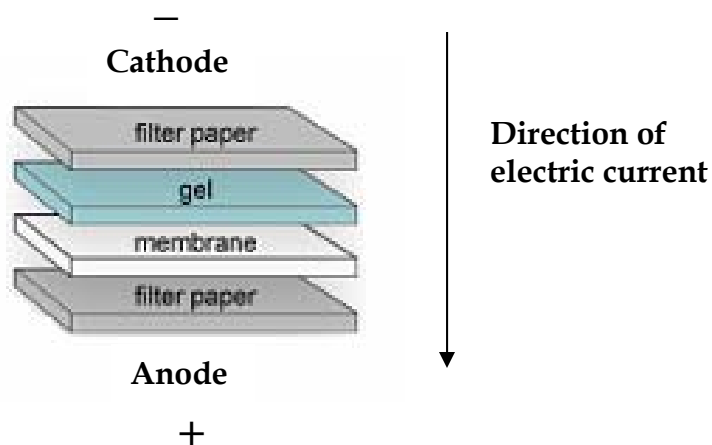

Fig1: Arrangement of the gel and membrane for electrotransfer
Immunoblotting or Western blotting is the electro transfer of resolved proteins from the polyacrylamide gel to the nitrocellulose/PVDF membrane in presence of a specific buffer called transfer buffer. For this transfer procedure, the gel is placed on the membrane and both of them are sandwiched between two filter papers as shown in Figure 1:
1. Assemble the gel with nitrocellulose membrane and filter papers as shown in figure 1. This blotting sandwich is placed within the blotting cassette. Try to avoid air bubble between gel and nitrocellulose membrane by rolling a glass tube on the membrane.